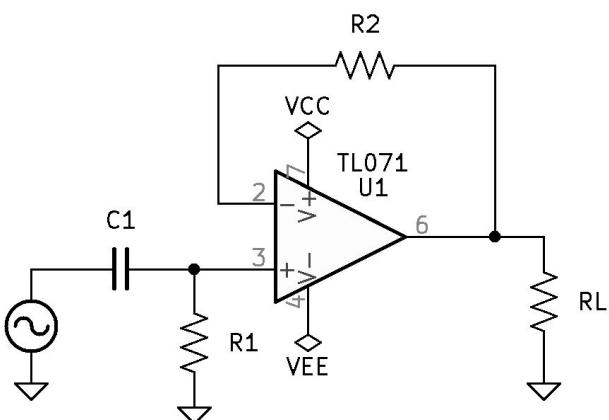

Figure 8.4: High-Pass First Order Active Filtering Circuit.
1. See Figure 8.4 *High-Pass First-Order Active Filtering Circuit* on page 89.